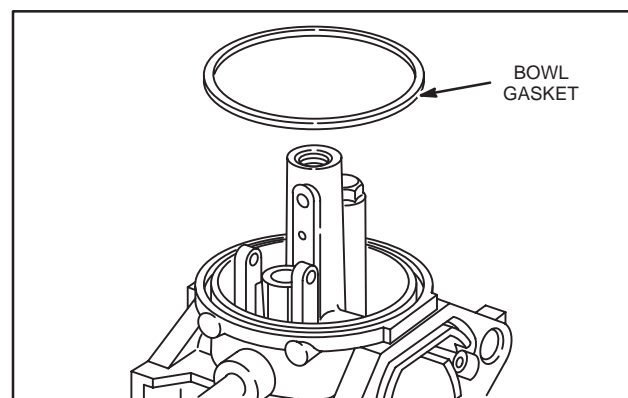

Fig. 7 – Removing Bowl Gasket
- Remove carburetor bowl gasket, Fig. 7.